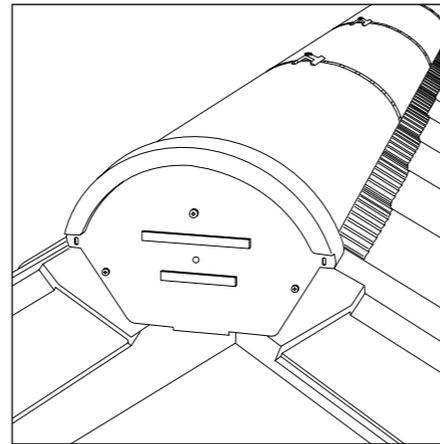

Fig 10
- 10 Repeat this process along ridge line, ensuring screws are not over-tightened. The ridge line should be finished with a full-length ridge tile. The minimum length of any cut ridge tile should be no less than 250mm (Fig. 10).